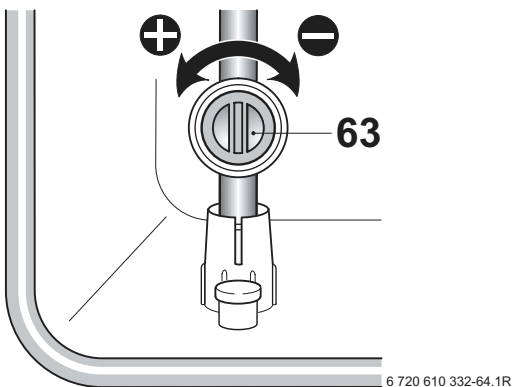

Fig. 45
- ▶ Adjust the gas flow restrictor (63) to obtain the CO₂ level given in Table 15. Refer to fig. 45.